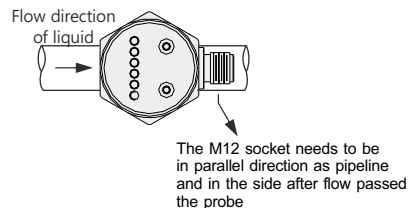

Fig. 4
- (4). Must secure the mounting is firmly locked to avoid the danger of liquid leakage from the pipe. To ensure the optimal sensitivity and response time, it should be installed in the direction as shown in Figure 4
- (5). If there are any particles in the fluid, please install a suitable filtering element at the upstream of SP to prevent contamination on the probe of SP.